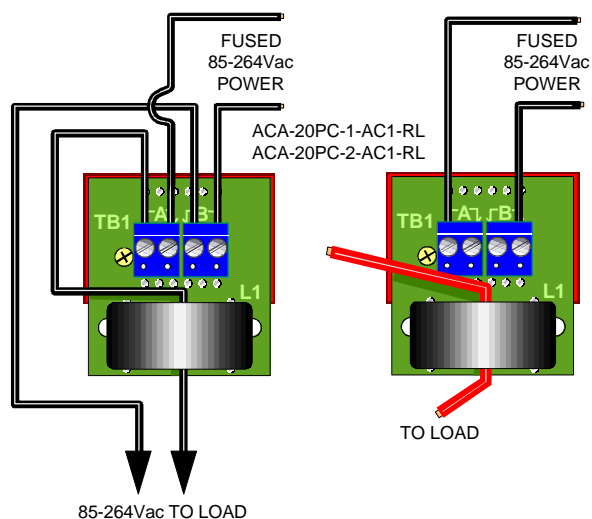

Figure 3. 2A and 20A, 85-264V AC-Powered Models
① The ACA-20PC-1-AC1-RL and ACA-20PC-2-AC1-RL have 4-position on-board terminal blocks. All other models have 2-position terminal blocks.
② Specified full-scale currents are those passing through the built-in CT's primary (load) circuit, over the frequency of 45-450Hz. The Overcurrent Rating is a continuous rating that applies to the measured ac load current. It does not apply to any circuitry external to the meter. Accuracy is guaranteed to the rated current.
③ For the ACA-20PC-2-AC1-RL, if the load is connected to the meter's on-board 4-position terminal block, the 20A full scale range requires 12AWG solid copper wire on all connections. If 14AWG solid copper wire is used, the current should be limited to 15A. See Figure 3.
④ All specified maximum power supply currents are steady-state values. AC-powered models can draw higher surges at initial turn-on.
⑤ Maximum reverse polarity protection on "DC1" models is -40Vdc, and -50Vdc on "DC2" models. "DC3" models provide no reverse polarity protection.